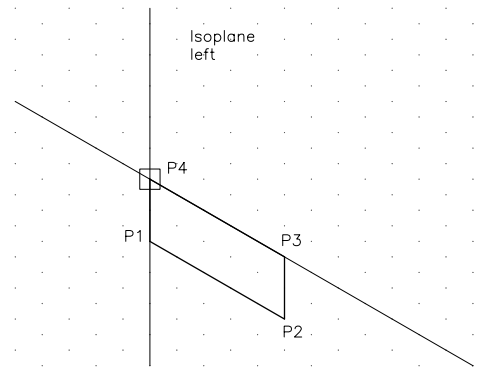

Figure 24-9 Drawing the bottom left face
2. Change the isoplane to the isoplane left by pressing the F5 key. Choose the **Line** tool and draw lines between the points P1, P2, P3, P4, and P1, as shown in Figure 24-9.